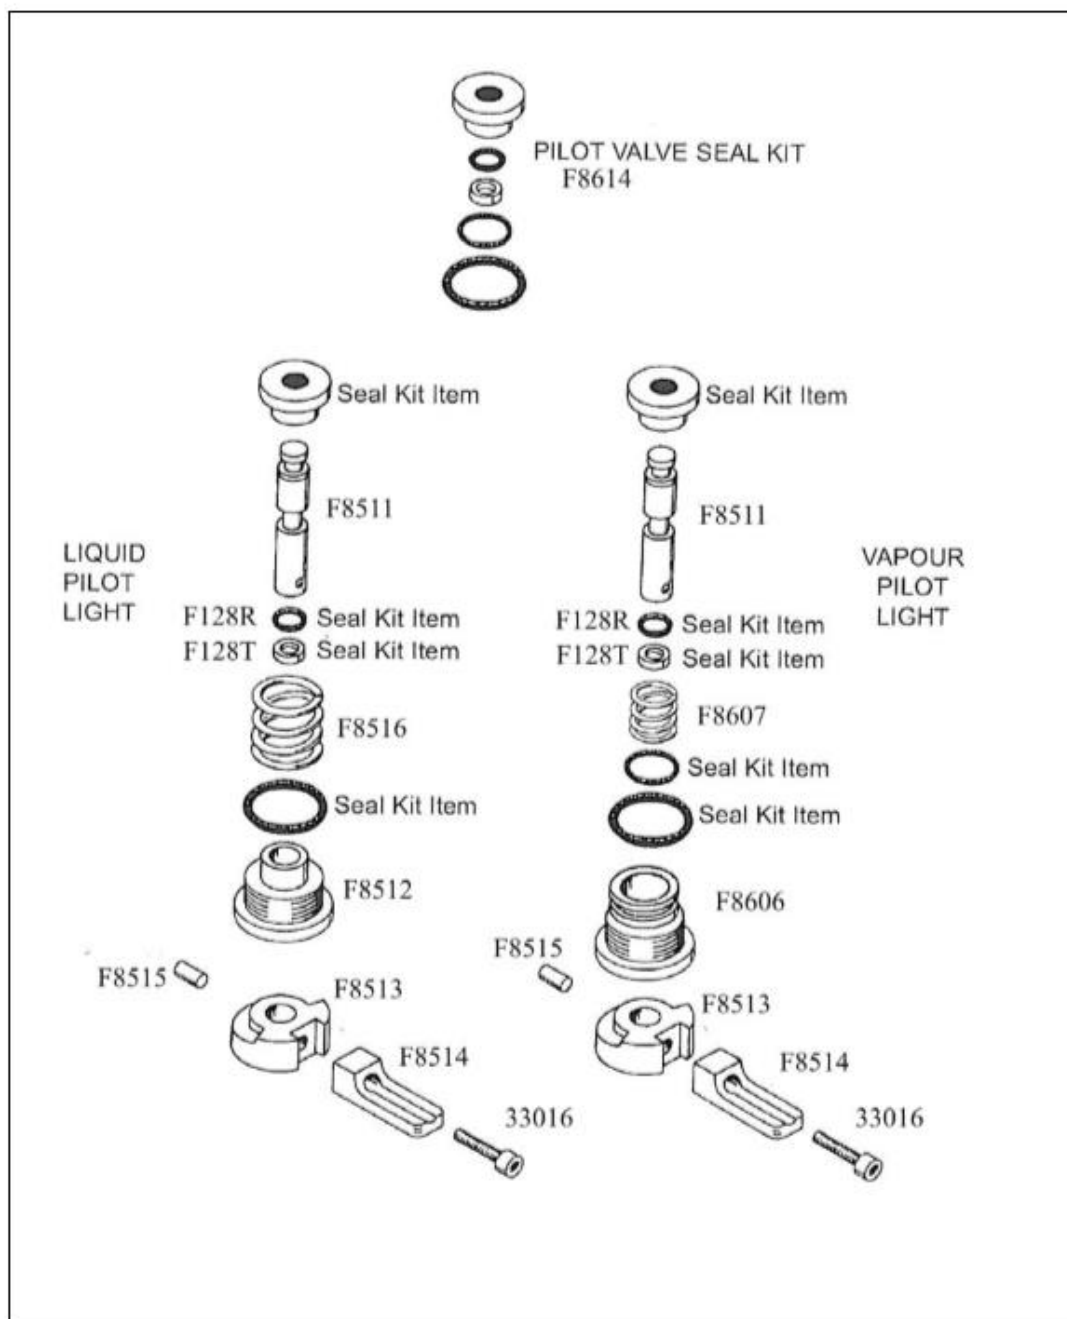

Figure 5: LOWER PILOT LIGHT
5. LOWER PILOT LIGHT: Figure 5